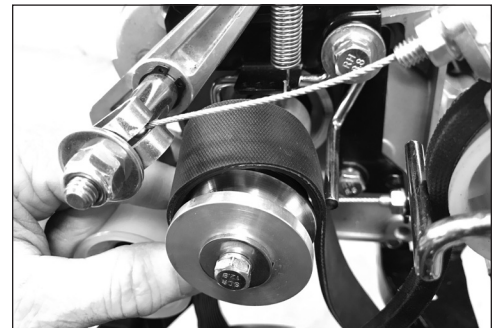

Figure 10
8. Push up on forward belt and pull off and away from engine pulley. SEE FIGURE 10